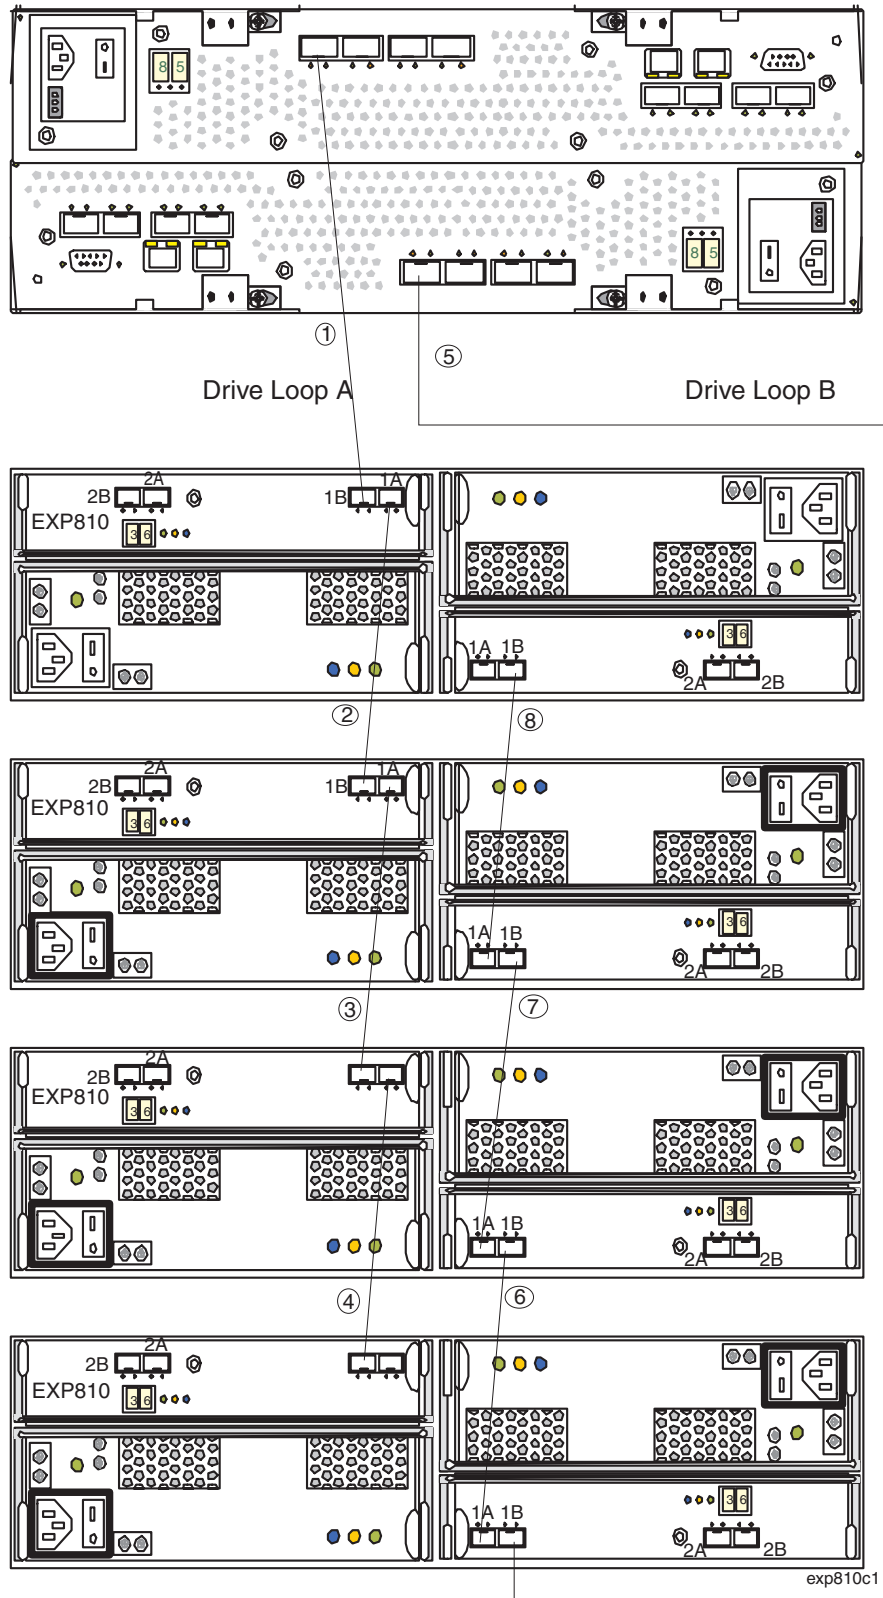

Figure 34. Correct EXP810 redundant drive loop configuration
- g. The controller drive ports of the DS4000 storage subsystem controllers must always be connected to the ports labeled 1B in both right and left ESMs of the EXP810s in the redundant drive channel/loop pair that is connected to the DS4000 storage subsystem. (Figure 34 on page 51 shows the location of the ports.)
Figure 34 on page 51 shows a redundant drive loop that you might create with a DS4800 Storage Subsystem and four EXP810s. The numbers provided in Figure 34 on page 51 show the order in which cables should be attached. Note that the controller port is connected to the port labeled 1B on both the right and left ESMs.
To create drive loop A (of the DS4800 redundant drive loop) shown in Figure 34, you would perform the following steps:
To create drive loop B (of the DS4800 redundant drive loop) shown in Figure 34 on page 51, you would perform the following steps: